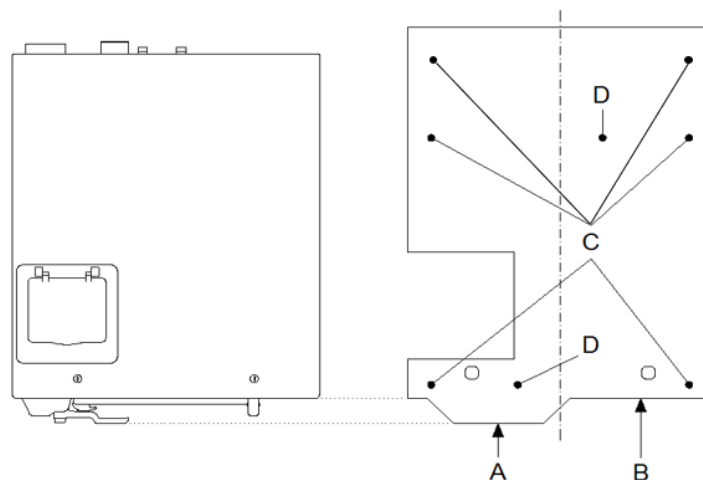

Fig. 2.4
Should the extra cardboard packing used as a spacer between the washing machine and the packaging have the holes (C) or (C and D) indicated in Fig. 2.4, this can be used as a template for the layout of the washing machine's anchoring points on the floor.
- Place the extra sheet of cardboard on the floor as shown in Fig. 2.4. It is important to place the cut-out for the dispenser as it is located on the washing machine.
- The washing machine can be aligned using the plans (A) or (B) in Fig. 2.4 as appropriate. Plan (A) distributes the anchorage points with reference to the hinges, or in the case of the **RMS/RMG628 / CACHMHD-70** and **REM/RMG070** models, to the handle. Whereas Plan (B) does so with reference to the front of the washing machine.
- Mark the anchoring points on the floor using holes (C) as indicated in Fig. 2.4. In the case of the **RMS/RMG628** and **REM/RMG070** models, mark the points using the holes (C) and (D) as indicated in Fig. 2.4.